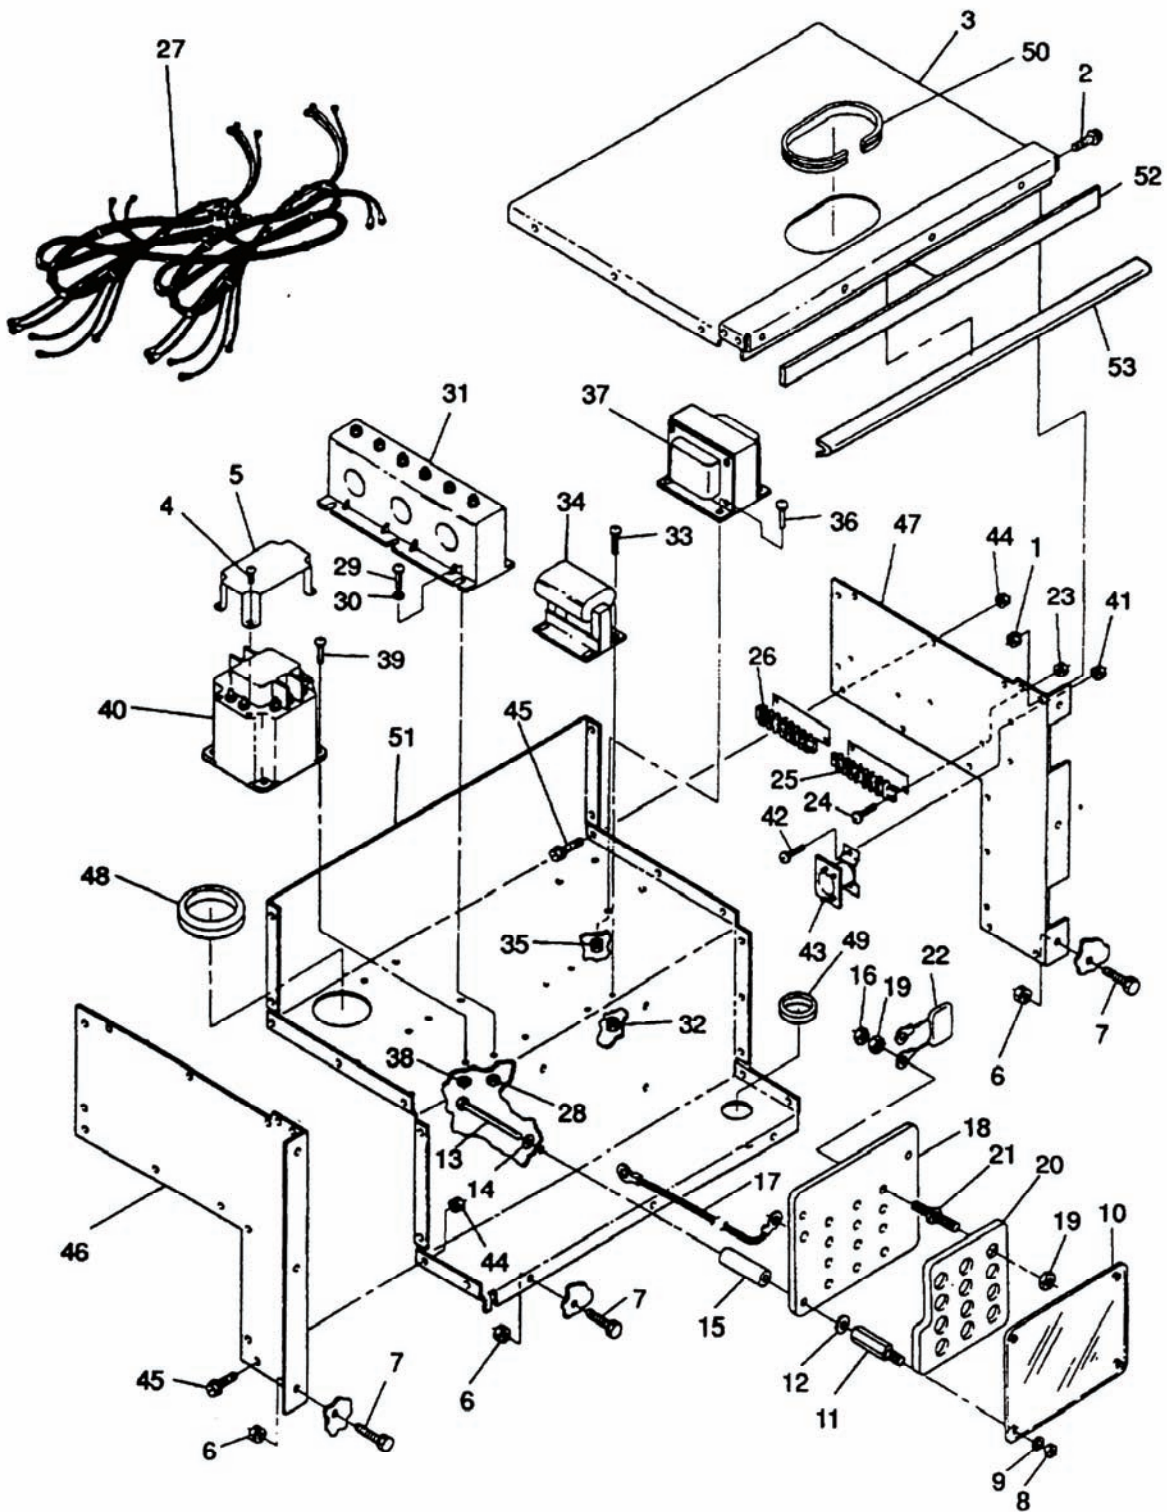

Figure 4-3. Output Box Assembly.
- k. Remove nuts (1, Figure 4-3), bolts (2), and output box top panel (3) from output box assembly.
- q. Remove nuts (6, Figure 4-3), bolts (7), and output box assembly from generator set.
- a. Install output box assembly in generator set with bolts (7, Figure 4-3) and nuts (6).
- c. Connect exciter leads F1 and F2 to terminals 1 and 2 of terminal board (26, Figure 4-3). Remove tags.
- d. Connect output cables to terminals A2, B2, and C2 of AC circuit interrupter relay (40). Remove tags.
- e. Install cover (5) on AC circuit interrupter (40) with screws (4).
- f. Install main generator cables onto current transformer (31) and droop current transformer (34) the same number of wraps recorded during removal.
- k. Install output box top panel (3) with bolts (2) and nuts (1).
- d. Remove nuts (8, Figure 4-3), washers (9), and cover (10) from voltage reconnection board (18).
- e. Unscrew standoffs (11) and remove washers (12), bolts (13), washers (14), and mounts (15).
- f. Remove nuts (16). Tag and disconnect electrical cables (17) and main generator cables from voltage reconnection board (18).
- g. Remove voltage reconnection board (18) and moveable terminal board (20) from generator set as an assembly.
- h. Tag position of capacitors (22) on voltage reconnection board (18).
- i. Remove nuts (19), movable terminal board (20), studs (21), and capacitors (22) from voltage reconnection board (18).
- a. Insert studs (21, Figure 4-3) in voltage reconnection board (18). Position capacitors (22), as tagged, align moveable terminal board (20) with voltage reconnection board (18), and install nuts (19). Remove tags.
- b. Position voltage reconnection board (18) and moveable terminal board (20) in generator set.
- c. Connect electrical cables (17) and main generator cables to voltage reconnection board (18) with nuts (16). Remove tags.
- d. Secure voltage reconnection board (18) to generator set with bolts (13), washers (14), mounts (15), washers (12), and standoffs (11).
- e. Install cover (10) with washers (9) and nuts (8). Close output box and load terminal board access doors.